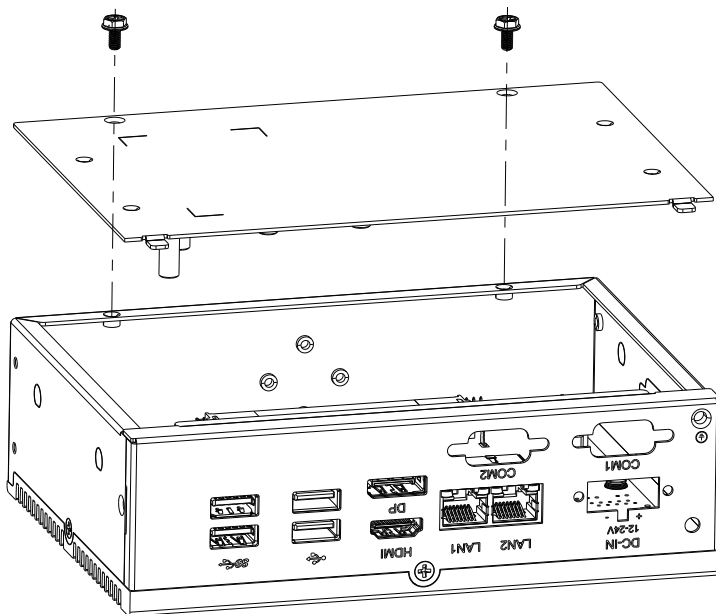

Figure 3.1-1
1. Remove 2 screws from the bottom panel, as shown in below Figure 3.1-1.